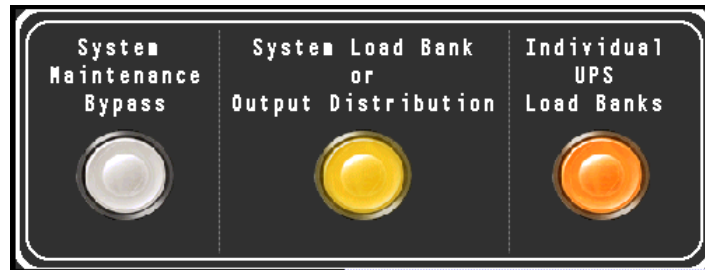

Figure 8: Breaker Configuration Window
- **Setup Screen 1:** UPS Module Quantity Capacity setting, KVA confirmation, and Configuration setting (Parallel Redundant, Capacity) (See Figure 8).
The CLC Breaker Configuration Window, seen in Figure 8, provides options for adding/removing Critical Load Cabinet breaker displays from the Main Overview Screen mimic display. CLC Breaker labels can be modified from within the administrative settings, and will be saved, as long as they are displayed.